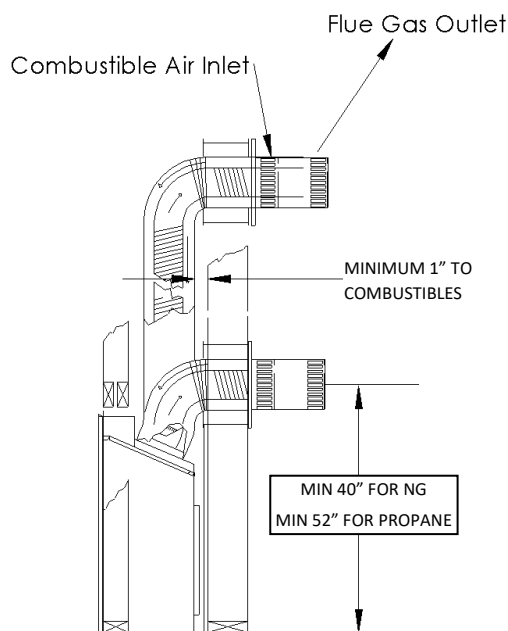

Figure 1
Place the spring spaces provided approximately every two feet to stabilize 4" flex in the center of 7" flex. When forming bends place spring in bend or before and after. (See Fig. 1). Horizontal runs require support metal straps every 2 feet. In offset installation support straps should be used to stabilize pipe.
Expand 4" and 7" flex pipe to the point that the 7" protrudes approximately 2 to 3 inches past outer wall and the 4" flex protrudes approximately 2 to 3 inches past the 7" flex. (See Fig. 1). Attach the 4" pipe to the termination first and secure with sealant and screws then attach the 7" flex to the termination with caulking and screws. Termination may then be moved back to the outer wall and attached to home screwing into the framing. Silicone around termination to waterproof. If siding shield is going to be used attach this using same attaching hole as the top of termination after termination has been caulked for water proofing.
4. To install wall thimble center over 11" x 11" (inch) framing from both sides of wall and secure. Route flex vent pipe through wall thimble (See Figure 1).
8. Support horizontal pipes every two (2) feet (61 cm) with metal strap bands. Re-check fireplace to make sure it is levelled and properly positioned and secured.